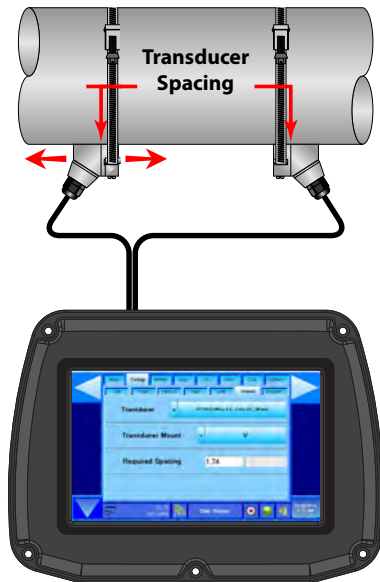

Figure 27: Transducer positioning
2. Using the alignment marks, place the downstream transducer on the pipe at the calculated transducer spacing. See *Figure 27 on page 28*. Apply firm hand pressure. If signal strength is greater than 10%, secure the transducer at this location. If the signal strength is not greater than 10%, using firm hand pressure, slowly move the transducer both towards and away from the upstream transducer while observing signal strength. Signal strength can be displayed on the flow meter's display. Clamp the transducer at the position where the highest signal strength is observed. The factory default signal strength setting is 10%. However, there are many application-specific conditions that may prevent the signal strength from attaining this level. Signal levels less than 10% are not acceptable for reliable readings.